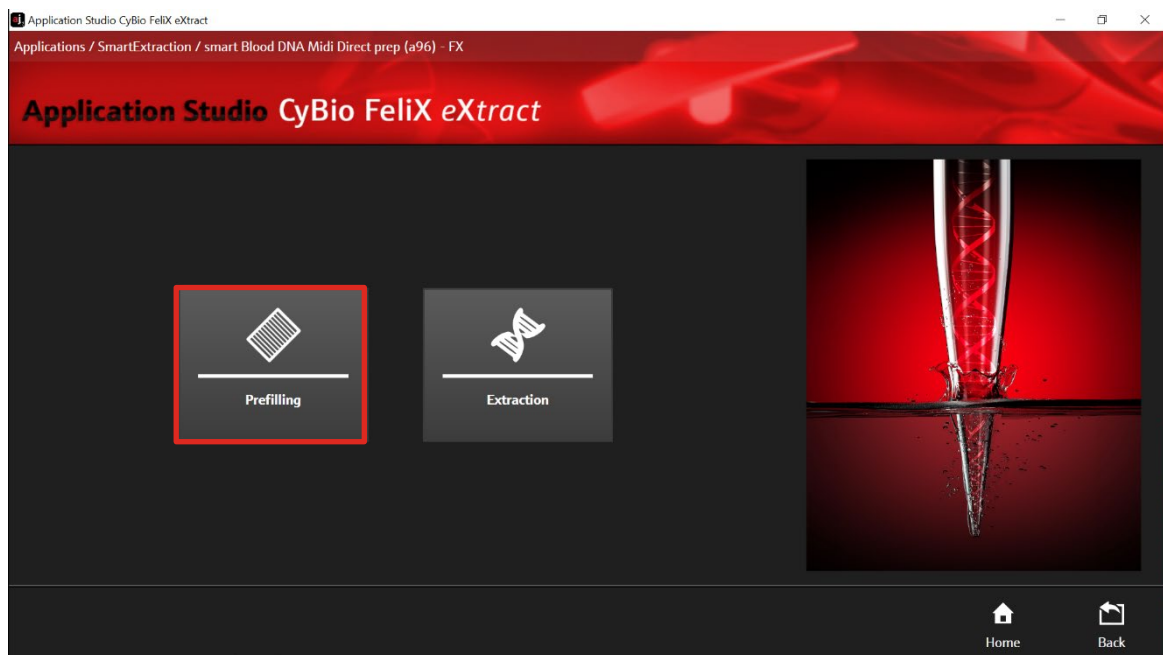

Figure 24: Routine selection: Prefilling.
16. Choose "Prefilling" (→ see Figure 24).